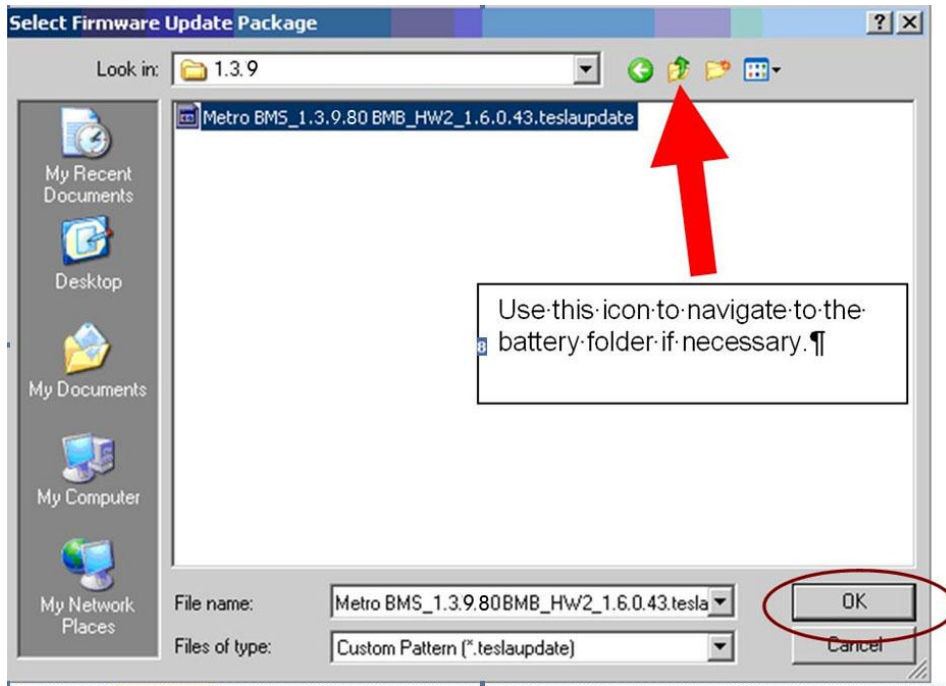

Figure 5
- Select the displayed file and confirm with OK (circled, Figure 5).